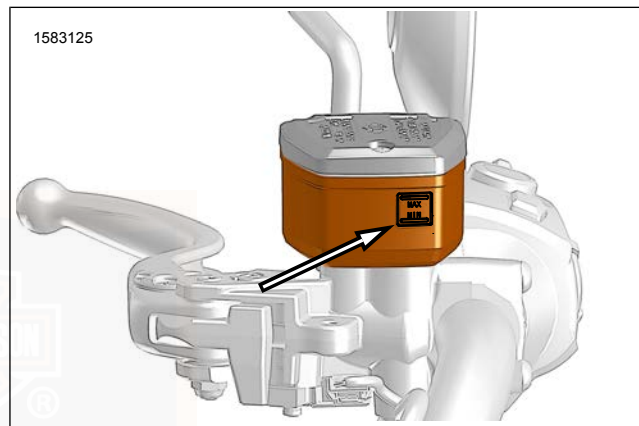

Figure 61. Front Master Cylinder Reservoir MIN Level
2. **Front:** See Figure 61. Check level on side of front brake reservoir. Level must be above minimum mark on side of reservoir.